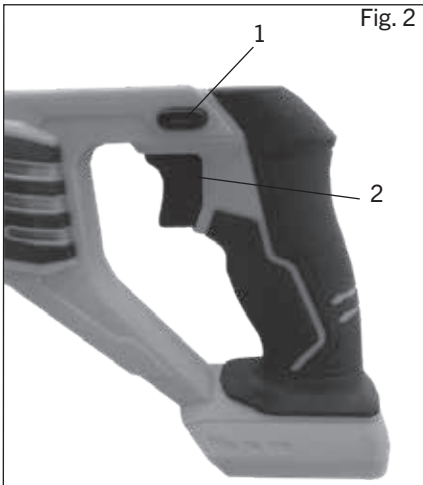

Fig. 2
1. The lock-out switch (1) is a safety device designed to reduce the possibility of a user accidentally starting the saw. (Figure 2)
2. This switch must be pressed before the trigger (2) switch can be squeezed.
1. To turn the saw ON, press the lock-out switch with your thumb. (Figure 2)